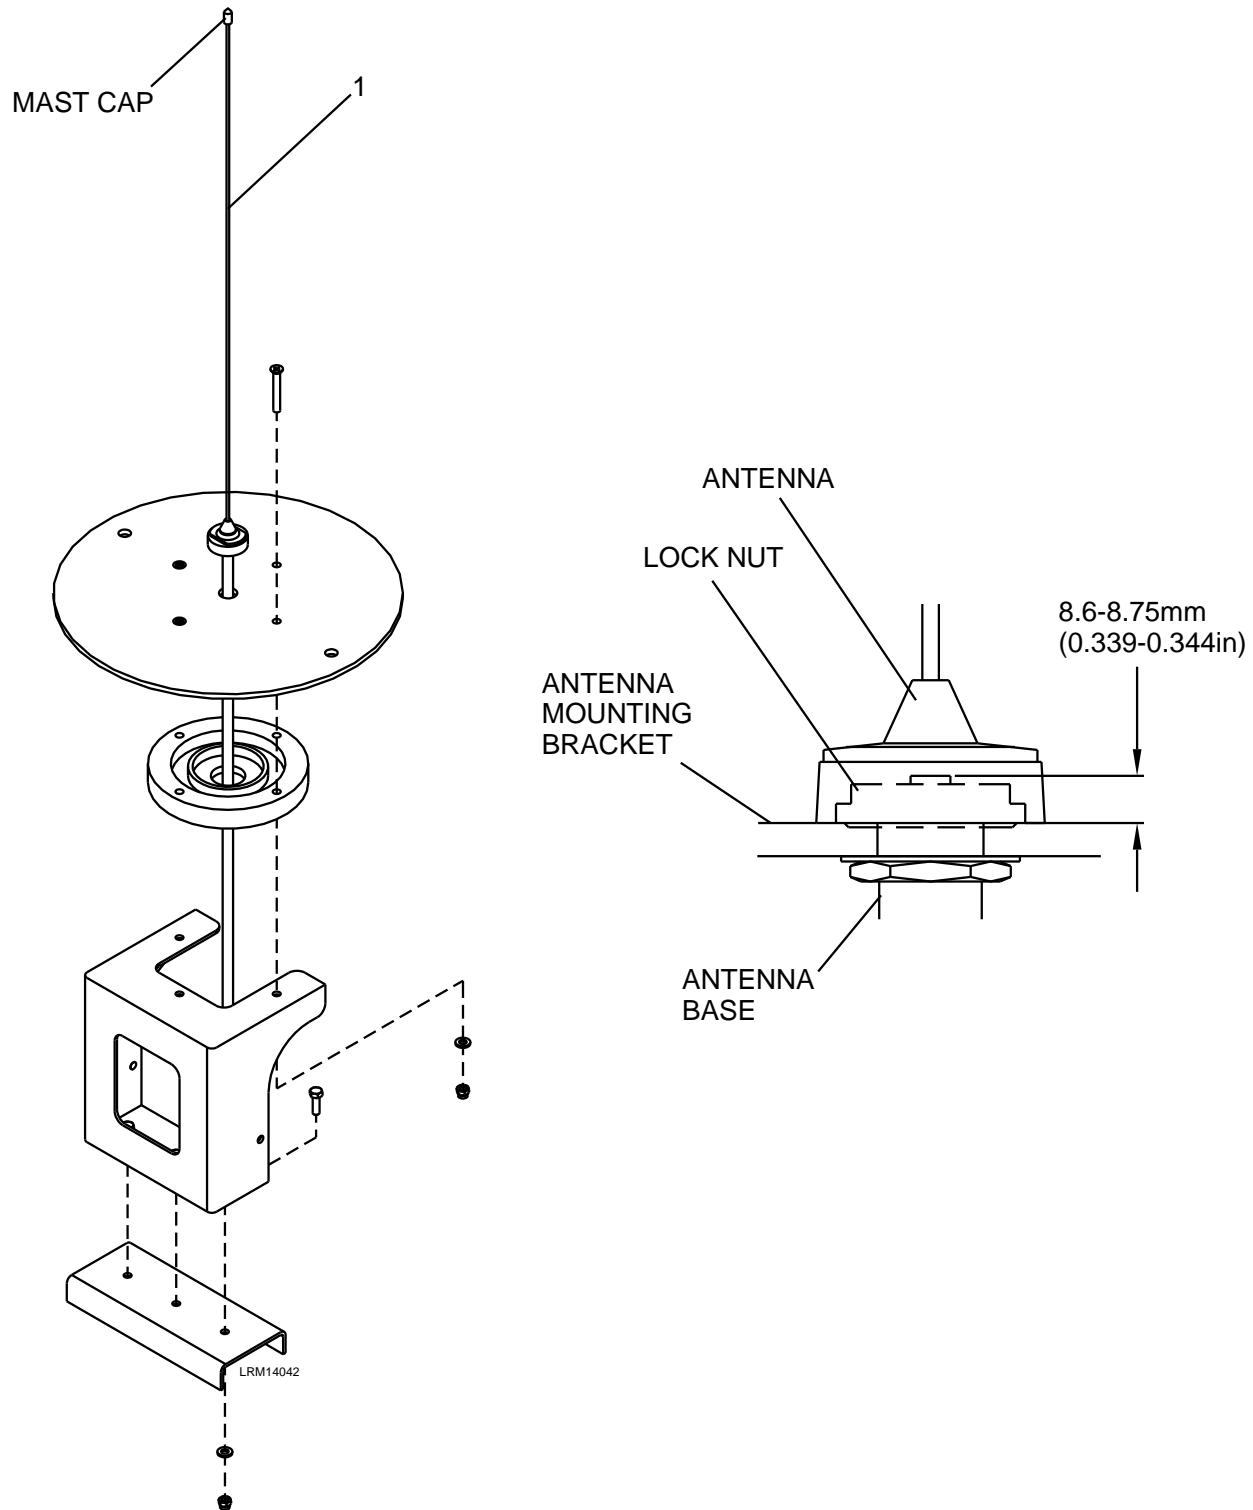

Figure 7-31: Radio Antenna
1. Remove the radio antenna (1) by turning it counterclockwise. See Figure 7-31.